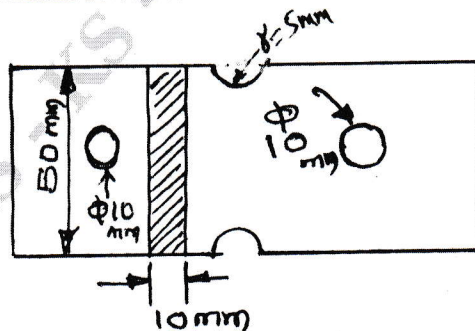

Fig. Q2 (c)
c. Determine the Safe Load that can be carried by a bar of rectangular cross section shown in Fig. Q2 (c) limiting the maximum stress to 130 MPa. Take stress concentration into account.